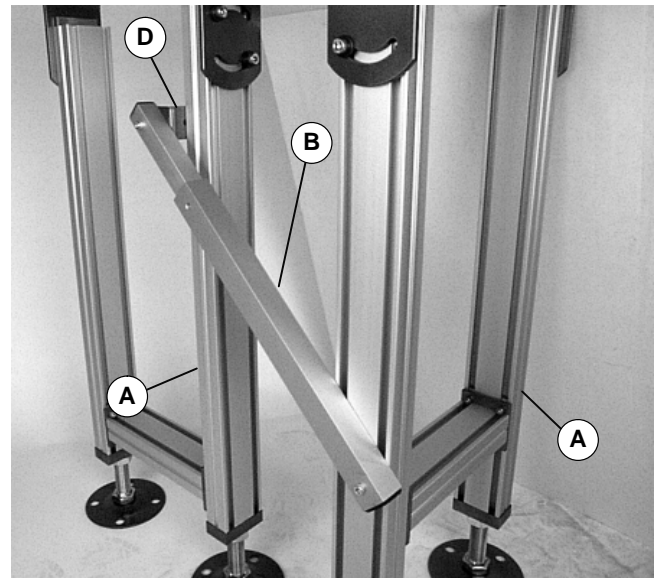

Figure 3
- 90° stand to stand mounting (Figure 3)